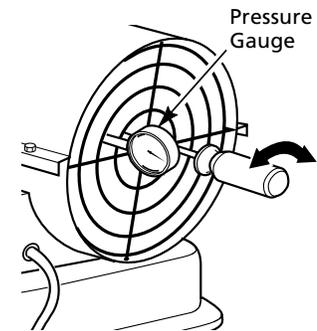

Figure 9 - Adjusting Pump Pressure
2. Install accessory pressure gauge (Part Number HA1180) (See Figure 9).
4. Adjust pressure to 6.2 psi. Turn relief valve to right to increase pressure. Turn relief valve to left to decrease pressure (See Figure 9).